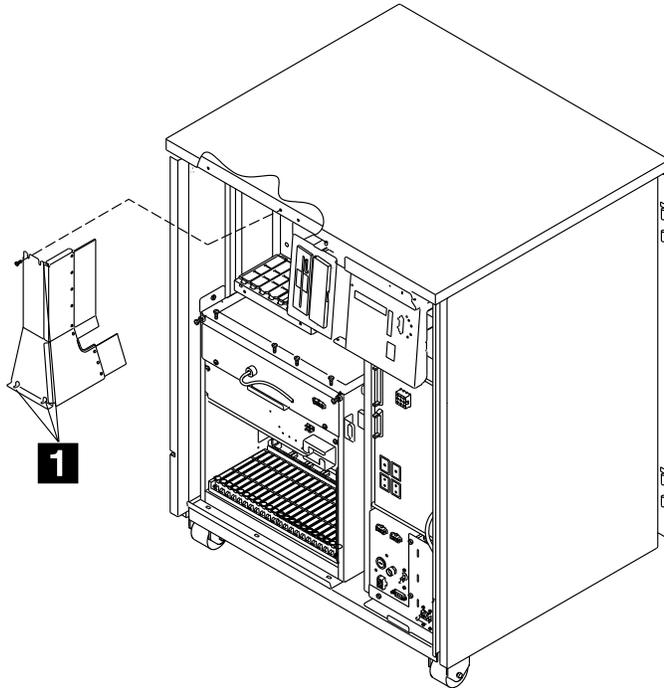

Figure 4-59. MOSS Right Cover
7. Remove the MOSS right cover (three screws must be removed **1**). Refer to Figure 4-59.